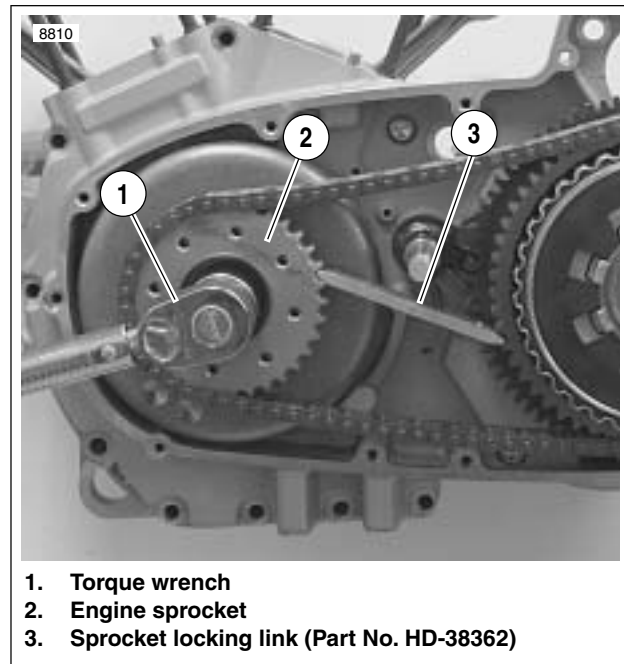

Figure 6-36. Sprocket Locking Link
3. See Figure 6-36. Install the engine sprocket nut.